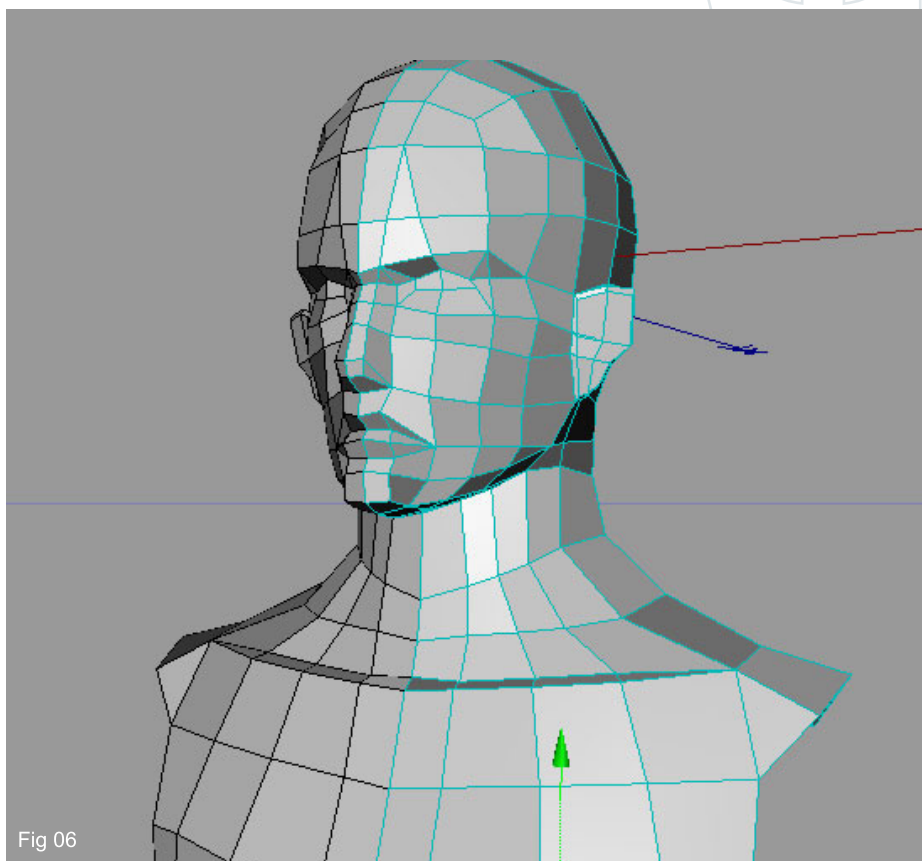

Fig 06
6. Now select the bottom row of edges on the front of the torso and make two extrusions like shown (Fig06). Adjust the new verts each time you make an extrusion.